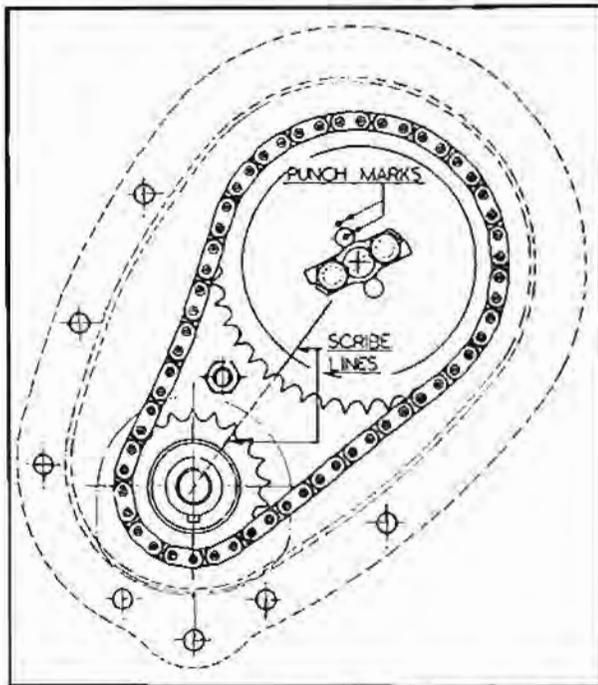

Fig. 21 Showing Wheel Markings for Valve Timing. Note the Keyway in the Crankshaft Sprocket pointing downward.
In addition, to avoid any possibility of the camshaft position being incorrect, a centre punch mark is made on the end of the camshaft through an unoccupied bolt hole and on the face of the timing gear adjacent to the setscrew hole; Fig. 21 shows the marking of the timing wheels.
- (f) Remove the timing cover by withdrawing the seven setscrews, four bolts and one nut. Note the timing markings on the gear wheels and camshaft; this will assist in the re-assembly (see Fig. 21).
- (a) When resetting the valve timing, the engine should be set with Nos. 1 and 4 pistons at T.D.C. In this position the crankshaft timing wheel keyway is pointing vertically downwards, as shown in Fig. 21. Rest the camshaft chainwheel on the camshaft spigot and turn the chainwheel about the camshaft until the identification punch mark on the end of the camshaft can be seen through the punch marked hole in the chainwheel. Secure the chainwheel to the camshaft leaving the two bolts finger tight. Turn the camshaft chainwheel until the scribe line thereon aligns with the scribe line on the crankshaft sprocket. **Without moving** the camshaft remove the camshaft chainwheel and when removed fit the timing chain to this wheel and the one on the crankshaft in such a manner that the scribe lines remain aligned. Reposition the camshaft chainwheel and check by simulating pressure of the chain tensioner that the timing marks have retained their positions and re-adjust if necessary. Tighten bolts to correct torque loading and turn over tabs of locking plates.
- (i) The timing gears are now marked with a scribe line as shown in Fig. 21.